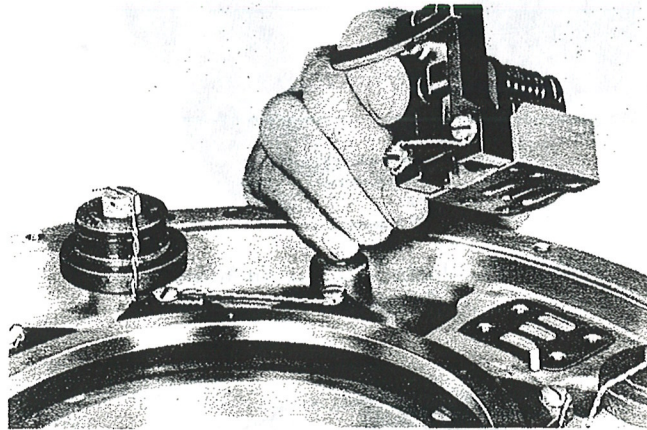

Figure 137—Installing the Governor
(2) Install the governor as follows: (See figure 137.)